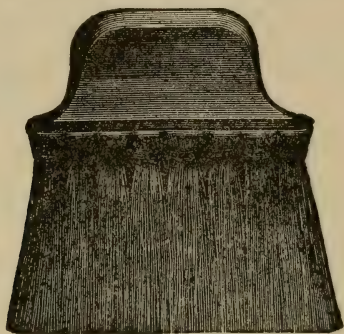

Fig. 24—Paperhanger's Paste Brush.
q. The *paper hanger's paste brush* is specially made so as to rub out paste easily, but many paper hangers use a worn out calcimine brush instead. It is illustrated in Fig. 24.